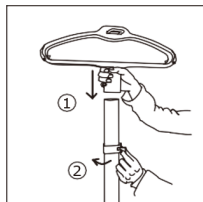

Fig. 1
1. Put the clothes hanger hook onto the top telescopic stand along the alignment as shown at the Fig. 1.